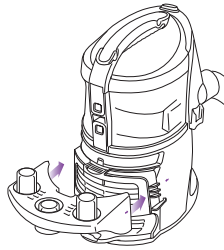
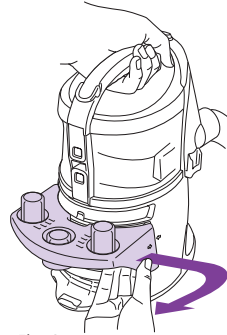

Fig. 2
Fig. 3
- 2 Insert the removable tool caddy onto the front of the Portable Vac. (**fig. 2**) To remove the tool caddy, hold the vacuum by the handle, pull out slightly from the right side and then remove it from the Portable Vac. (**fig. 3**)
- 3 Insert the crevice tool, dusting brush, upholstery brush or power brush into the openings on the tool caddy. (**fig. 3**)